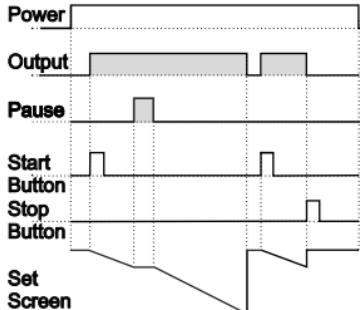

Figure 1.1
1.1.1 If downcount $dEct = 1$ and $outF$ is $0-n$ the control diagram is shown in Figure 1.1